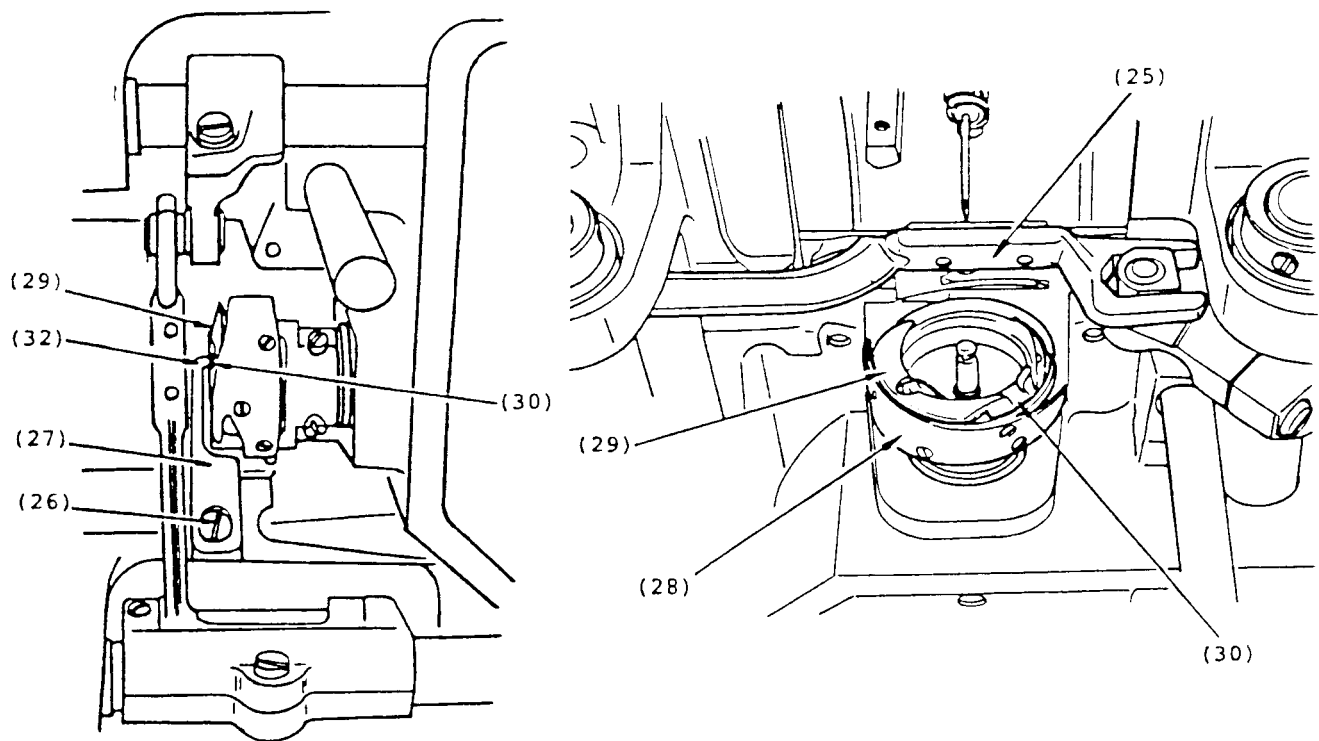

Fig. 18
When placing a new sewing hook on the shaft, have the sewing hook thread guard (28) at the bottom and the bobbin case holder (29) turned to the position shown in Fig. 18, so that the hook will clear the feed bar (25).